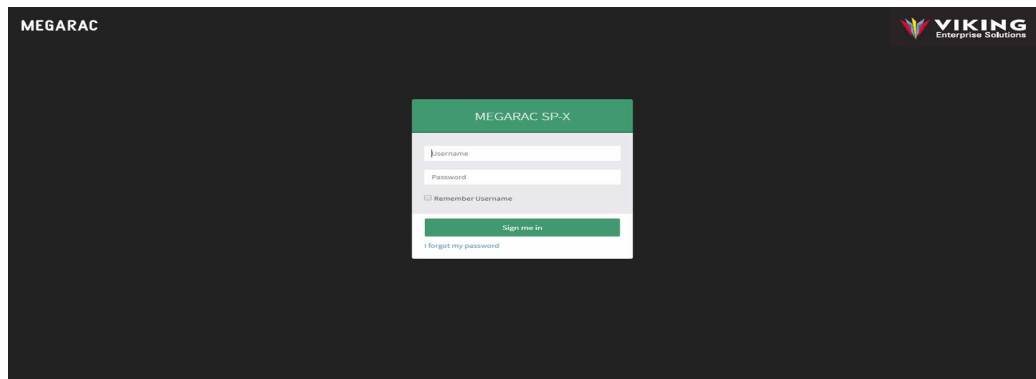

Figure 6.7 BMC WebUI login screen
2. The BMC WebUI login dialog box displays as shown in Figure 6.7 on page 70.